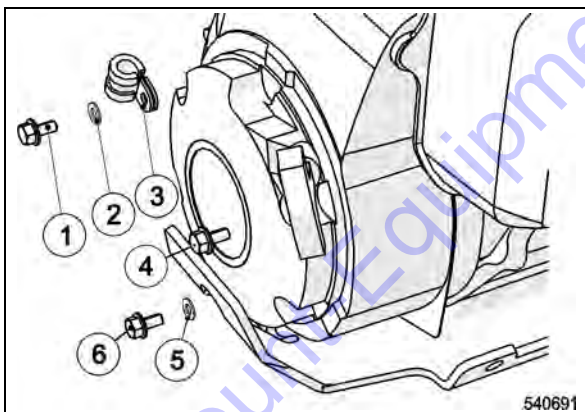

Fig. 67
- Insert the screw M6x12 (1) (Fig. 67) with washer (2) and clamp (3) into the recoil starter.
- Insert the screw M6x16 (6) with washer (5) and engine guard holder into the recoil starter.
- Insert screw M6x8 (4) into the recoil starter.
- Tighten screws (1), (4) and (6).